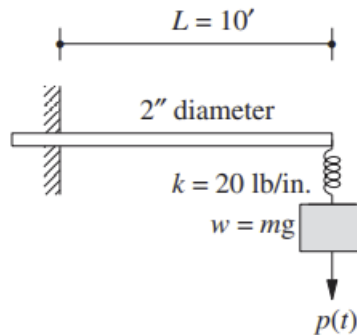

Fig 6.1
6. Derive the equation of motion of the weight w suspended from a spring at the free end of the cantilever steel beam shown in Fig. 6.1 For steel, $E = 29,000$ ksi. Neglect the mass of the beam and spring